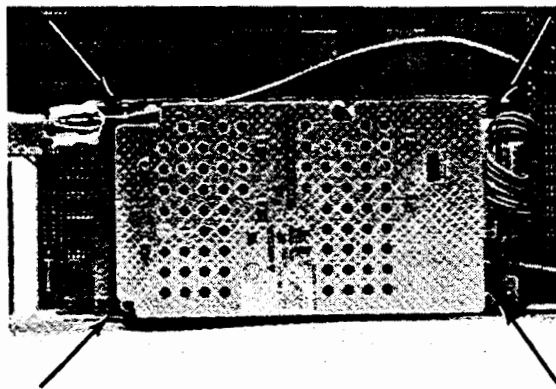

Figure 2-5. Power Supply Power Connectors and Screws
1. Remove the power connections as follows (Figure 2-5):
2. Remove the four power supply mounting screws (see Figure 2-5).